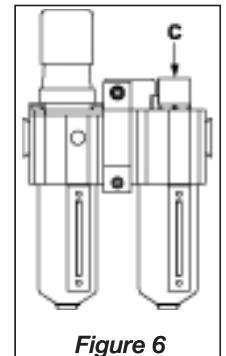

Figure 6
The adjustment knob (C) is factory-adjusted fully clockwise, so no oil is delivered to lubricate the system. To make initial adjustment, turn on the air and start flow to the system. Turn knob to adjust oil drip rate. Turning knob counter-clockwise increases drip rate. (see Fig. 6) Set the drip rate to one or two drops per minute initially and fine tune the rate after the system reaches its normal operating temperature.
Pull knob straight up to unlock. The adjustment knob must be turned clockwise to increase and counter-clockwise to decrease outlet pressure setting. To reduce pressure, first reduce to a pressure less than that desired, then increase to the desired outlet pressure. (See figure 6.)